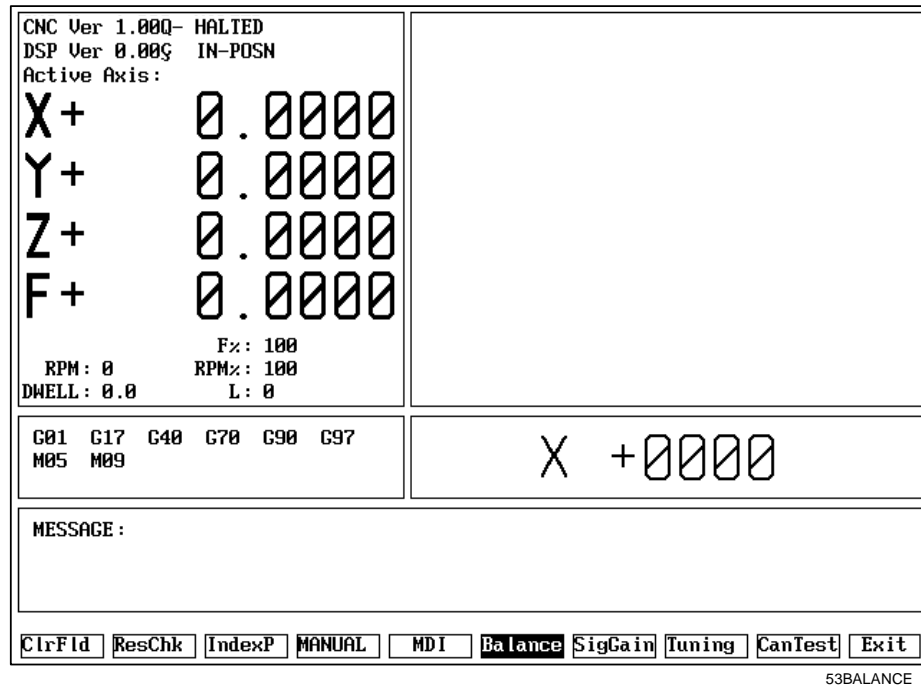

Figure 8, Balance Screen
2. Slowly turn the LOOP GAIN pot clockwise (CW). Motor should be stopped or turning slowly. If motor starts running away, remove power, reverse the tach leads, and retest. Turn the LOOP GAIN fully CW to enable.
4. Refer to **Figure 8, Balance Screen**. Press **Balance (F6)** to output a zero voltage signal to the axis.